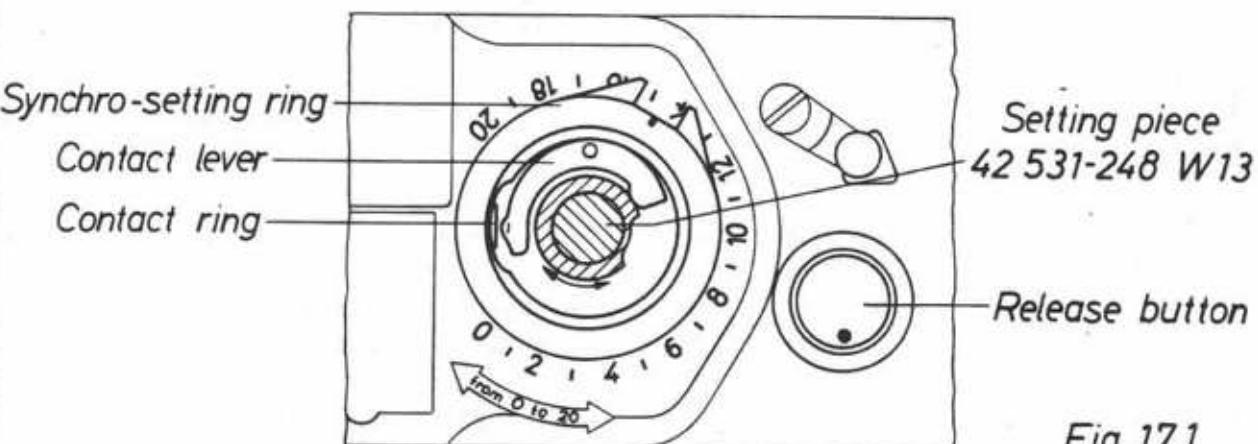

Fig. 17.1
- 1.15 Set lever to "L", tension the shutter of the Leica, and engage the release arm at the 1/1000 second setting. Mount the setting piece 42 531-248 W13 on the release arm, and turn it without allowing the contact lever to enter the cut-out of the setting piece. At the same time also turn the synchro-setting ring from 0 to 20, and check that the contact lever and contact ring do not make contact anywhere (see fig. 17.1).